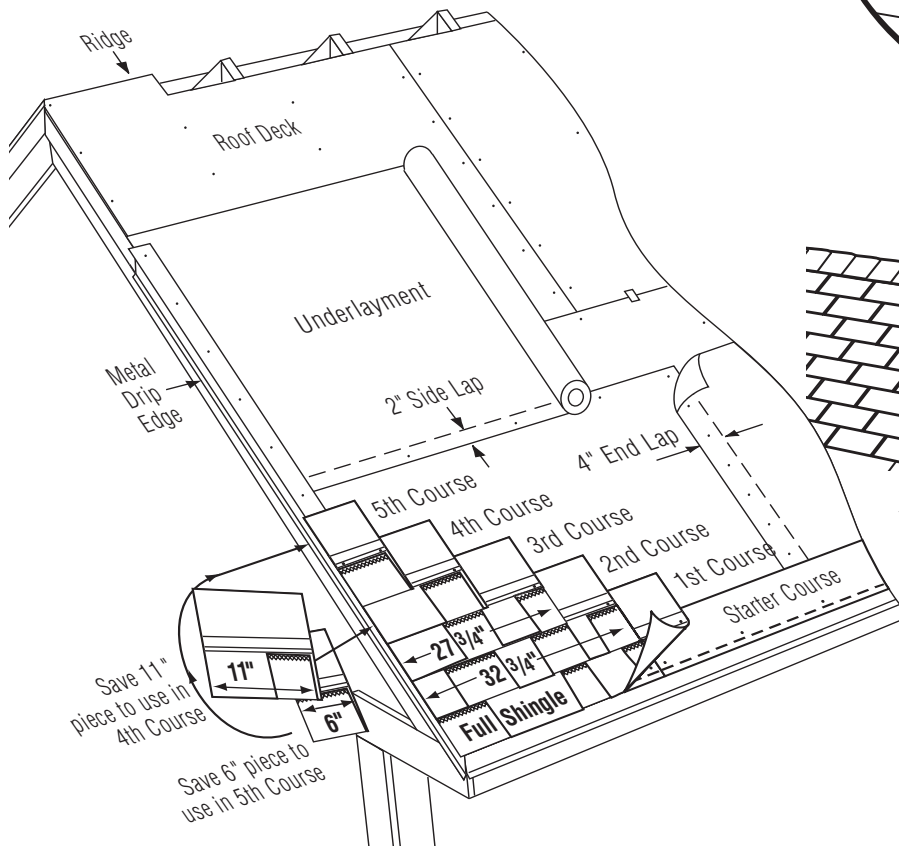

Figure 12-12: Applying the first 5 courses of Metric dimension.
**1ST COURSE:** Apply a full shingle at the lower left corner of the roof. Make the lower edge and left edge lie flush with the edges of the starter course (Figure 12-12).
1. Cut 6" off the left end of the first shingle and save this piece for later use. Apply the 323/4" (34" for Landmark TL) long piece over and above the first-course shingle. Leave the bottom 55/8" tab portion of the first-course shingle exposed (Figure 12-12).